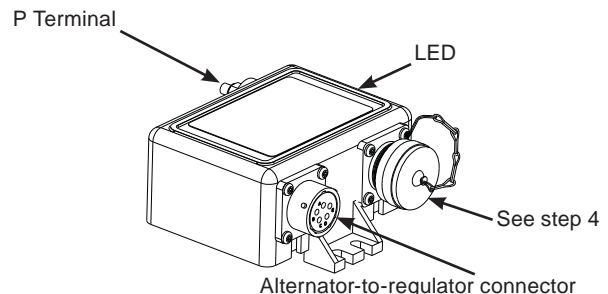

Figure 3 – A2-350 Remote-mounted Regulator
- Mount A2-350 flat-base regulator in remote location specified by customer. See Figure 3.